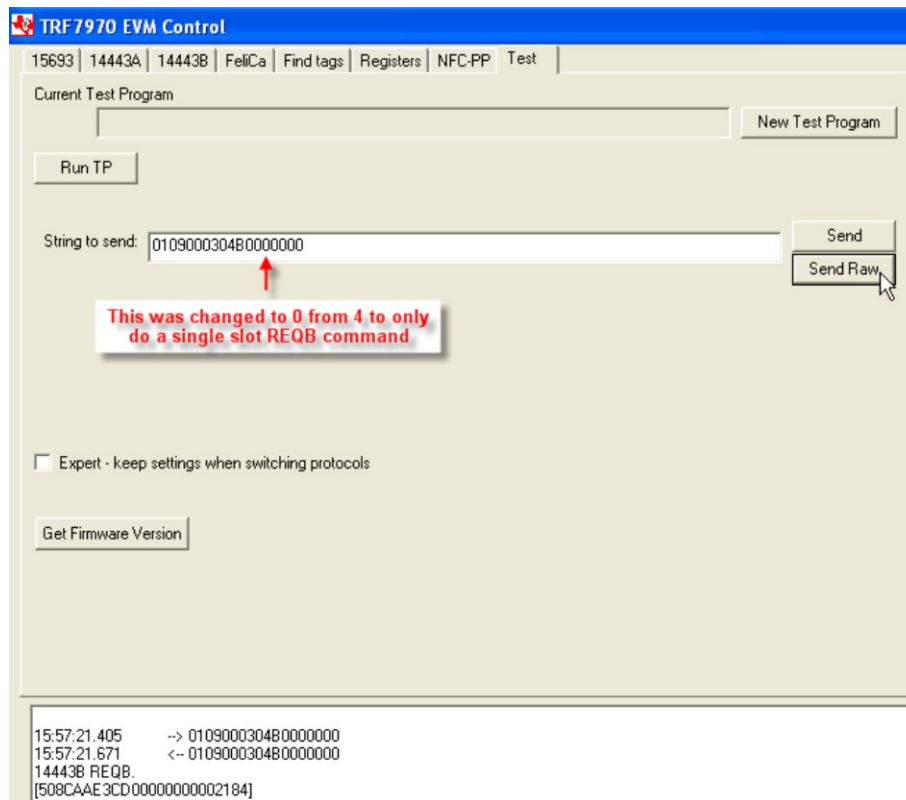

Figure 42. Sending Single Slot REQB
- To retrieve the PUPI from an ISO14443B tag on which anticollision has been disabled (this is most often the instance for ISO14443B cards that are being used for payment applications), thus requiring a single slot REQB to be sent. Notice in Figure 42 that the Send Raw button is used. This could have also been sent using the Send button with only *B000* as the String to send.